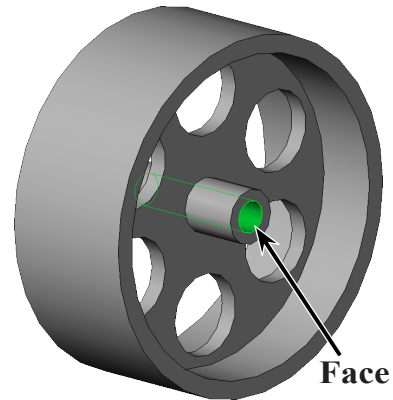

Fig. 20
Step 1. Click the **inside cylindrical face of axle hole** to select it, **Fig. 20**.